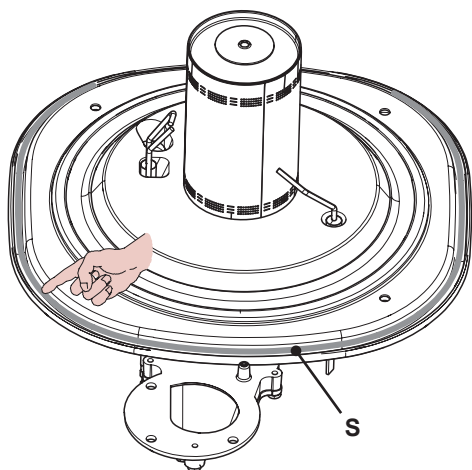
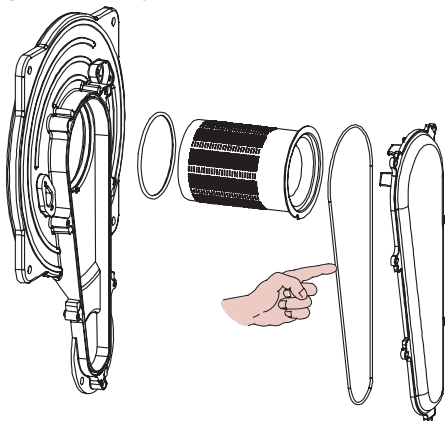

Figure 5.4
Figure 5.5
After any periodical servicing or disturbance the combustion chamber silicon seal (S) Figure 5.4 and the Air-gas duct gasket (Figure 5.5) must be fully inspected and replaced at the discretion of the service engineer.